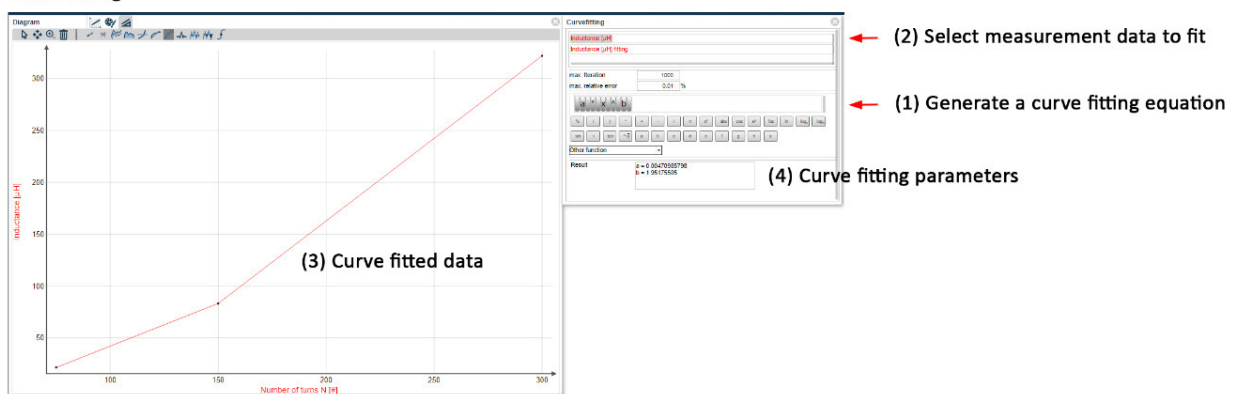

Figure 28: Data analysis tools - Curve fitting
To generate curve fitting of measured values, go to 'Data analysis and tools' and select 'Curve fitting'. Next to the diagram, a 'Curve fitting' window will appear in which you can determine a curve fitting equation (1). After selection of respective measurement data (2), the curve fitted data will appear in the diagram (3) and the respective curve fitting parameters (4) are displayed in the 'Curve fitting' window (Figure 28).